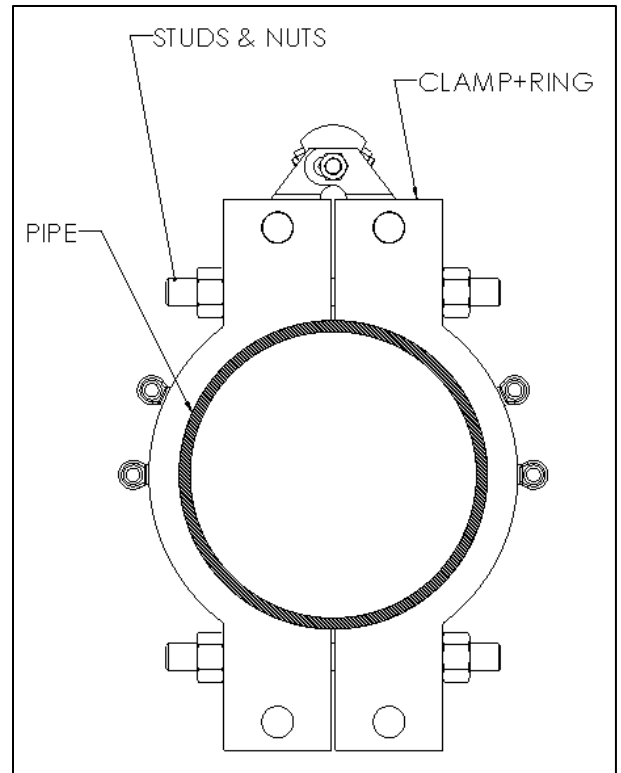

Figure 10
7. Once the fitting is wrapped around the pipe, insert the clamp studs through the bolt holes and thread on the nuts as shown in Figure 10. It is helpful to loosely tighten these bolts until both sets of clamp